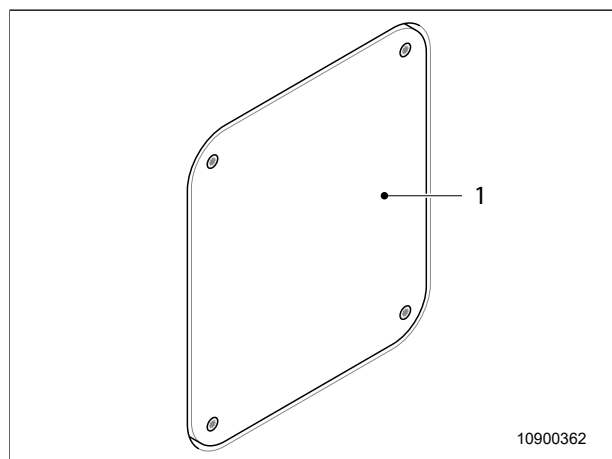

Fig. 64 Inspection opening
6. Remove the inspection opening (Fig. 64, item 1), if present.